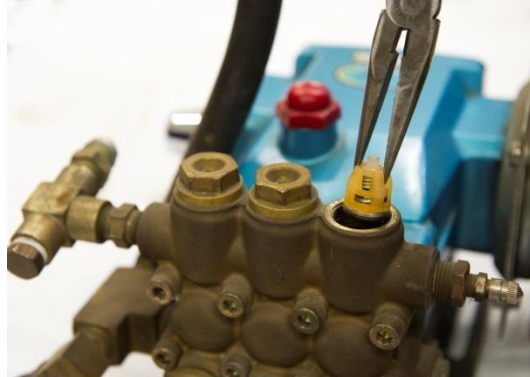

Figure 18: Removing the valve assemblies
3. Using a needle-nose pliers, remove the valve assembly from the cavity (see Figure 18).